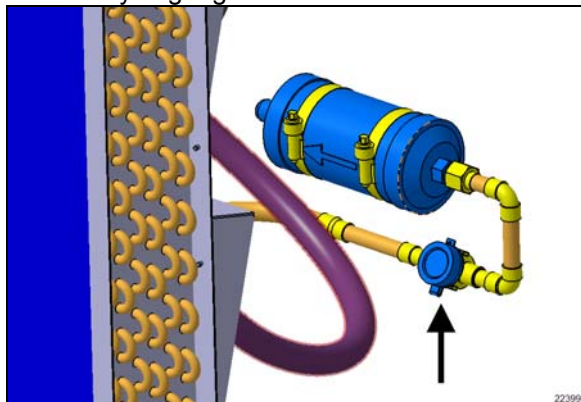

FIGURE 77: MOISTURE INDICATOR SIGHT GLASS
- 2- With the AC on for at least 10 minutes, the moisture indicator sight glass (FIGURE 77) should be clear, not milky, without bubbles in the stream of refrigerant. Bubbles in the moisture indicator sight glass are sign of refrigerant low charge. The filter-dryer nearby should be near constant temperature, less than 5°F differential between inlet and outlet. A partially blocked filter will make some flash gas and give a "milky" sight glass.